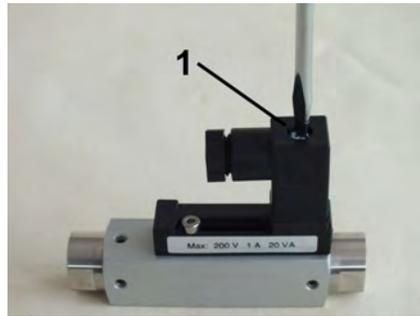

Fig. 21: Detach socket
- 1.** ➤ Release the fixing screw (Fig. 21/1) from the socket.
9. → Plug the socket onto the connector plug and tighten the fixing screw (Fig. 21/1).